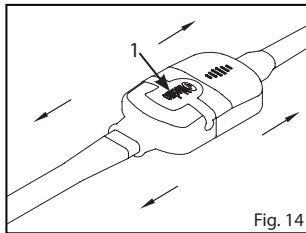

Fig. 14
1. Refer to **Fig. 14**. While holding the sides of the cable connector, place thumb on latch (1) and press. Hold the latch down while pulling the connectors apart.